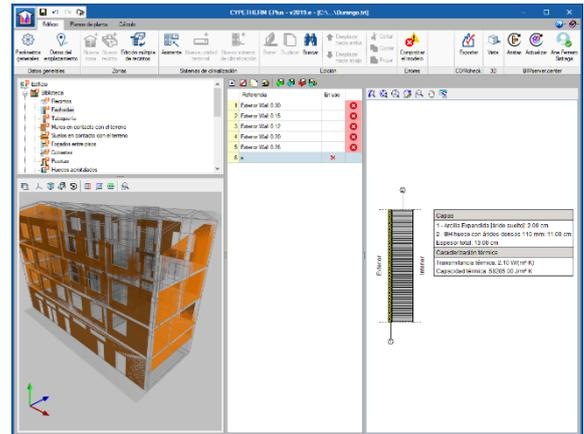

Figure 1 CYPETHERM Eplus
| Figure 1 CYPETHERM Eplus | 7 |
- **CYPETherm EPlus** (figure 1,2): modelling and energy simulation of buildings with EnergyPlus™, integrated in the Open BIM workflow via IFC and gbXML.